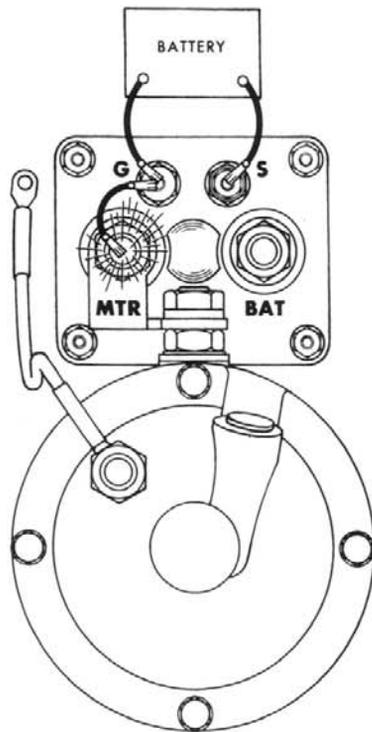

Figure 11—Checking pinion clearance circuit
1. Make connections as shown in Figure 11.
2. **Momentarily** flash a jumper lead from terminal G to terminal MTR. (Fig. 11). The drive will now shift into cranking position and remain so until the battery is disconnected.